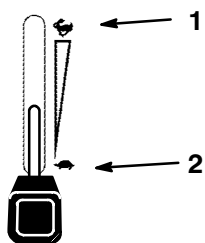

Figure 5
- Move the throttle lever to “SLOW” (Fig. 5).